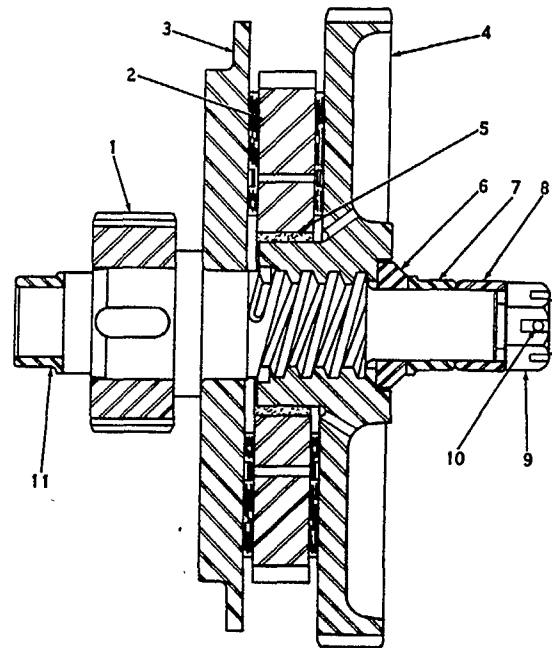

Figure 5-11. Load Brake Shaft Assembly
3. Remove the snap ring (13) and the disc hub (14).
4. Disconnect the conduit from the gear case cover (15).
6. If the motor pinion shaft did not come out with the gear case cover, withdraw the motor pinion shaft (10) by pulling it straight out from the splined coupling (9).
7. Remove the pawl pin (27). Slide out the pawl (26) with the load brake spring cap assembly (28).
9. If it is necessary to disassemble the load brake shaft assembly (Figure 5-11), firmly secure the intermediate pinion (1) in a vise with protective jaws. Remove the cotter pin (10) and nut (9). Remove the motor gear (4) by unthreading it, clockwise, from the shaft, as viewed from the motor gear end of the shaft. The motor gear will serve as a jack screw for removal of items 6, 7, and 8. The bearing inner race (11) and pinion are pressed on to the shaft and must be pulled if they are to be removed for replacement.